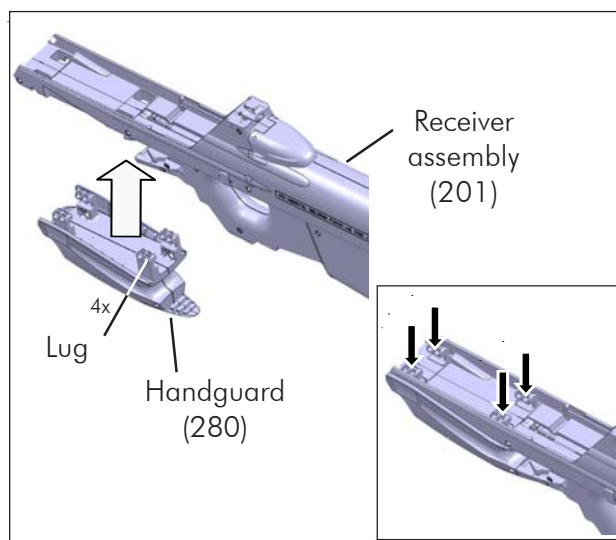

Fig. 7.3.a - Reassembly of the handguard (280)
7.3.1. Handguard (280) or Handguard tri-rail (280/1)
- Position the handguard/handguard tri-rail (280)/(280/1) below the receiver assembly (201) so that it is aligned with the tip of the receiver (210). Install the handguard/handguard tri-rail (280)/(280/1) against the receiver assembly (201) and firmly push it upwards (Fig. 7.3.a).
Note: Check that the lugs of the handguard/handguard tri-rail (280)/(280/1) are parallel to the top edges of the receiver (210) (Fig. 7.3.a).
7.3.2. Magazine (601)